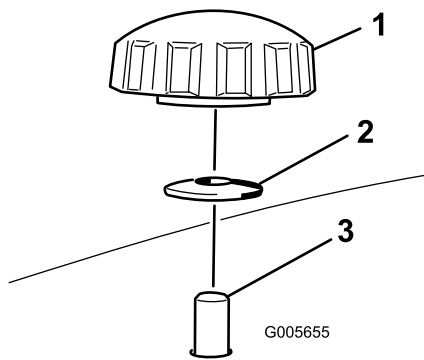
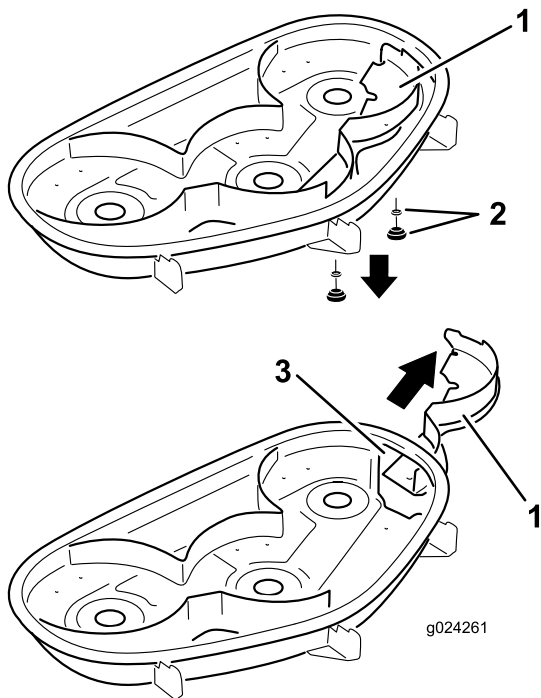

Figure 27
Figure 28
4. Remove the 2 knobs and curved washers that secure the right baffle to the mower (Figure 27).
5. Remove the right baffle and lower the grass deflector over the discharge opening as shown in Figure 27 and Figure 28.
5. Slide the right baffle under the mower deck, and secure it using 2 knobs and the curved washers (cupped side facing the mower) as shown in Figure 27 and Figure 28.